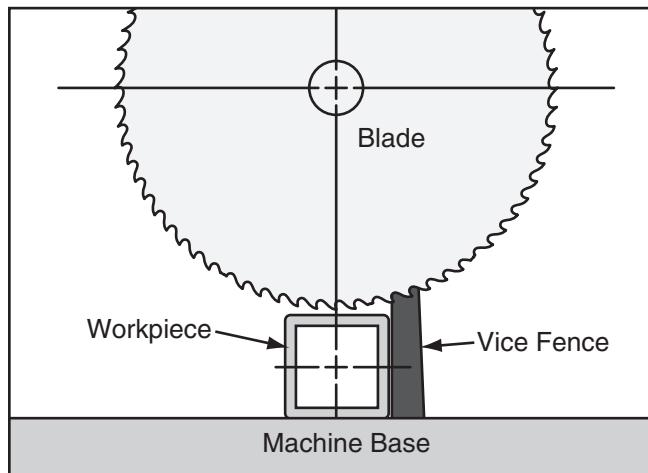

Figure 8. Blade/workpiece alignment.
4. While maintaining the angle of the vise fence, slide the fence along the base until the center-line of the workpiece approximately matches the center-line of the saw (**Figure 8**).